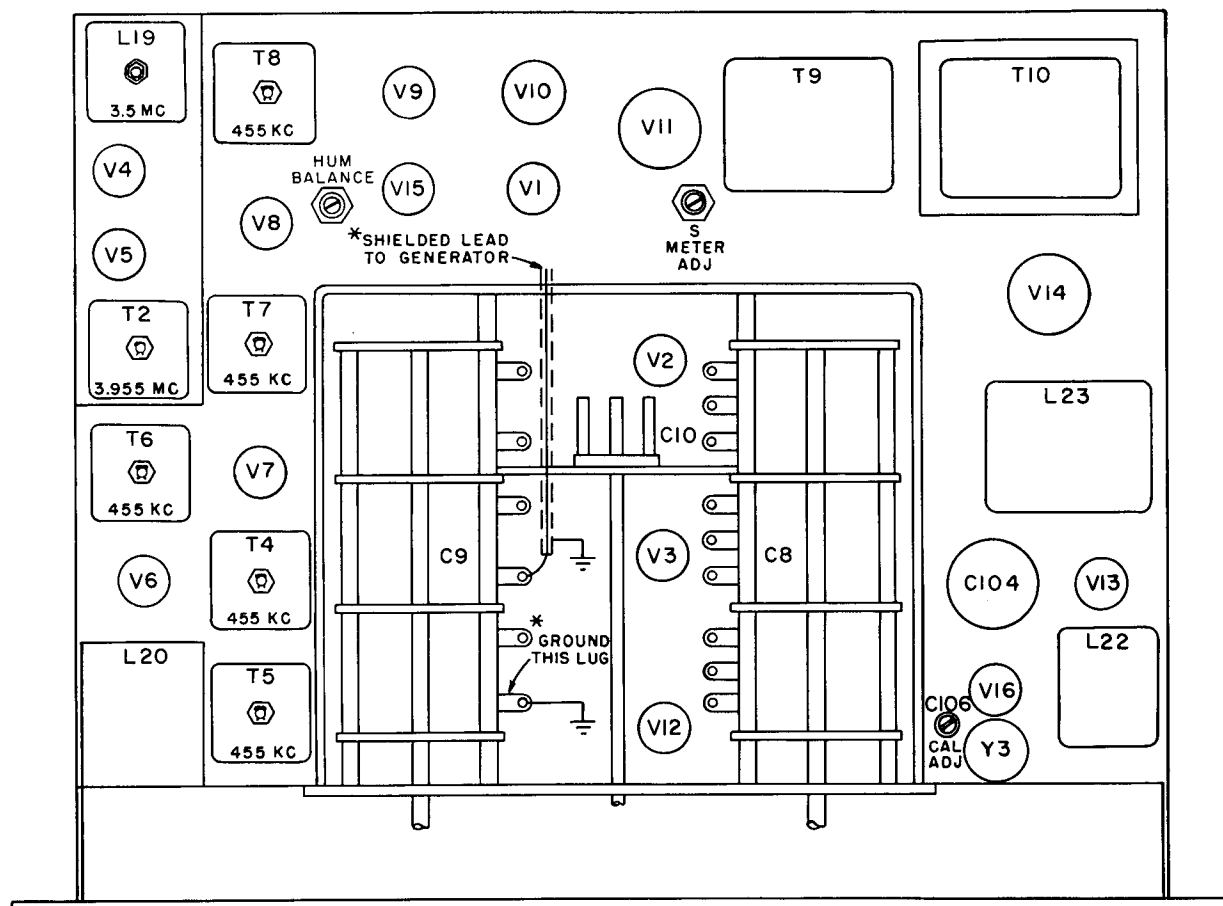

Figure 4-2. Receiver Chassis, Top View
b. As shown in Figure 4-2, ground one lug of main tuning capacitor and connect output lead from hf signal generator to other.
b. As shown in Figure 4-2, ground one lug of main tuning capacitor and connect output lead from signal generator to other.
c. In order, adjust i-f transformers T8, T7, T6, coil L20, and i-f transformers T5 and T4 (Figures 4-2 and 4-4) for maximum reading on vtm.
- b. Adjust coil L19 (Figure 4-2) until some deflection of vtvm is noted.
d. In order, adjust i-f transformers T3 and T2 (Figures 4-2 and 4-4) for maximum deflection
4-22 To adjust HUM BALANCE control R94 (Figure 4-2) proceed as follows:
- e. Adjust S METER ADJ control on top of receiver chassis (Figure 4-2) for S-meter reading of S-9.